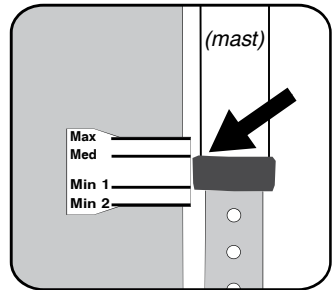

Figure 3: Move the calibration gauge so the medium mark lines up with the bottom of the mast.
- d) Next, move the downhaul gauge at the bottom of the sail so that the medium mark of the gauge lines up with the bottom of your mast (figure 3).